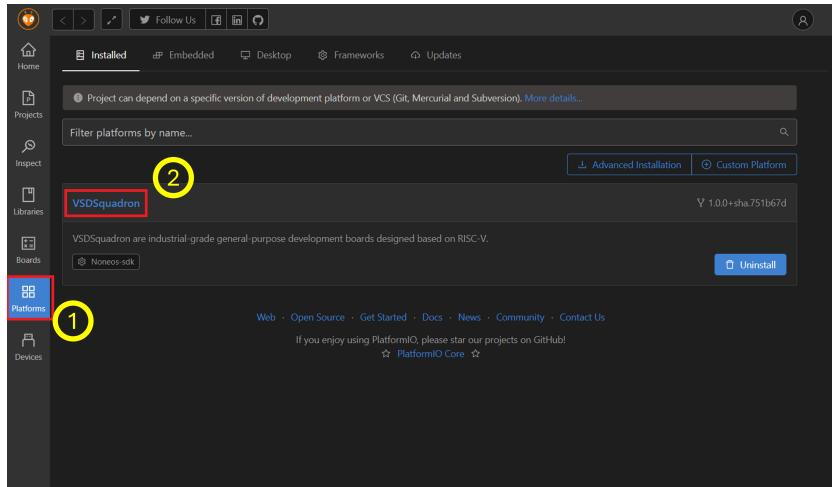

Figure 9: VSCode GUI highlighting "Platforms" and "VSDSquadron" platform which you sucessfully installed in previous step
- Click on "Platforms" as shown in Figure 9
- Click on "VSDSquadron" as shown in Figure 9